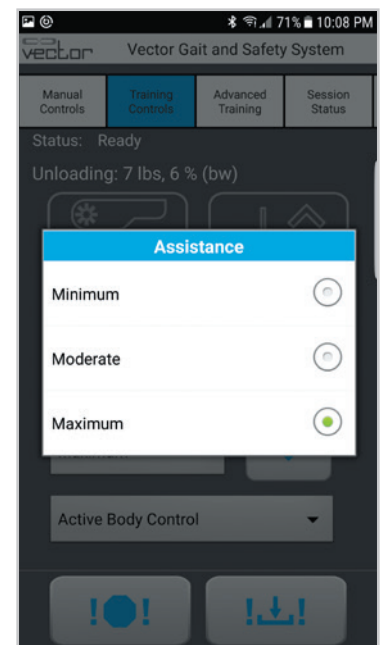

Figure 9-10: Assistance Level
1. To change the Active Body Control Assistance Level, use the drop-down menu to select minimum, moderate or maximum. See Figure 9-10. The Save button will turn red.